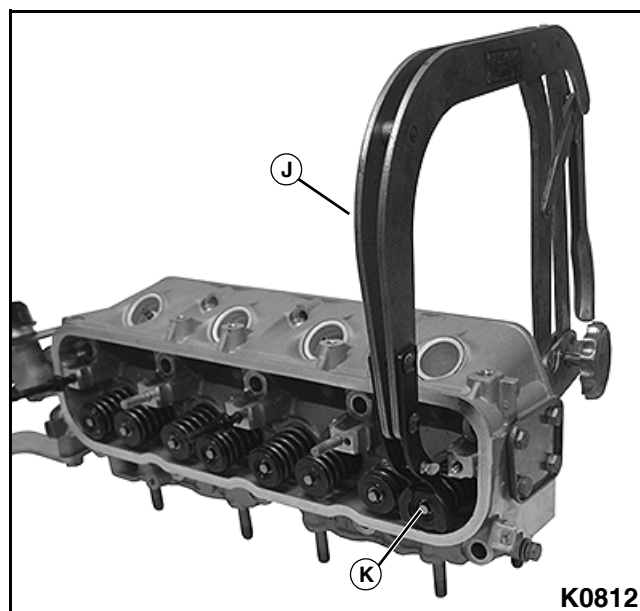

Figure 3-137
8. Using an appropriate valve spring compressor (J), compress the valve spring to gain enough clearance, and install the valve spring retainer locks (K). **See Figure 3-137.**